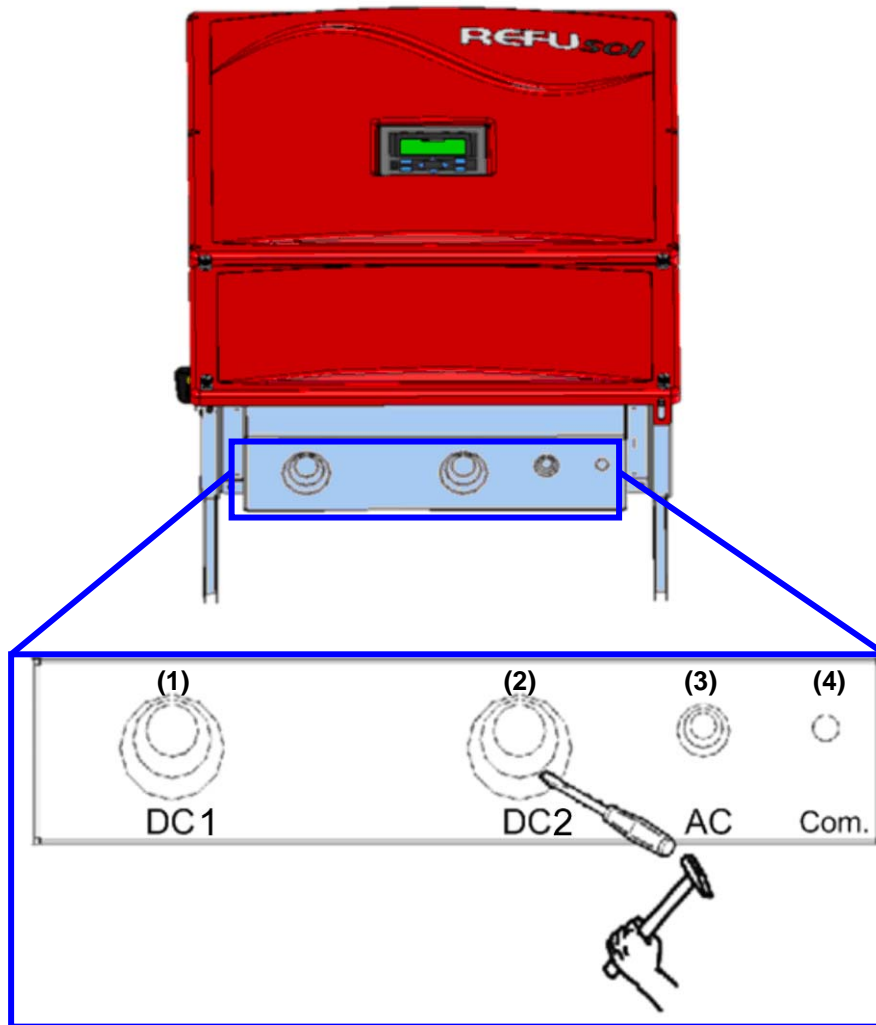

Fig. 10 Possible knockouts for cable feed through on the bottom of the connecting box
For insertion of the DC and AC conductors, knockouts corresponding to the cable outside diameter and the screwed cable gland should be punched out from in the inverter lower cable entry plate, see Fig. 10.
- Punch knockouts in the lower cable entry plate corresponding to the cable outside diameter and the screwed cable gland for insertion of the string cables of the PV generators and the AC connection in the inverter. For details, see Fig. 10.